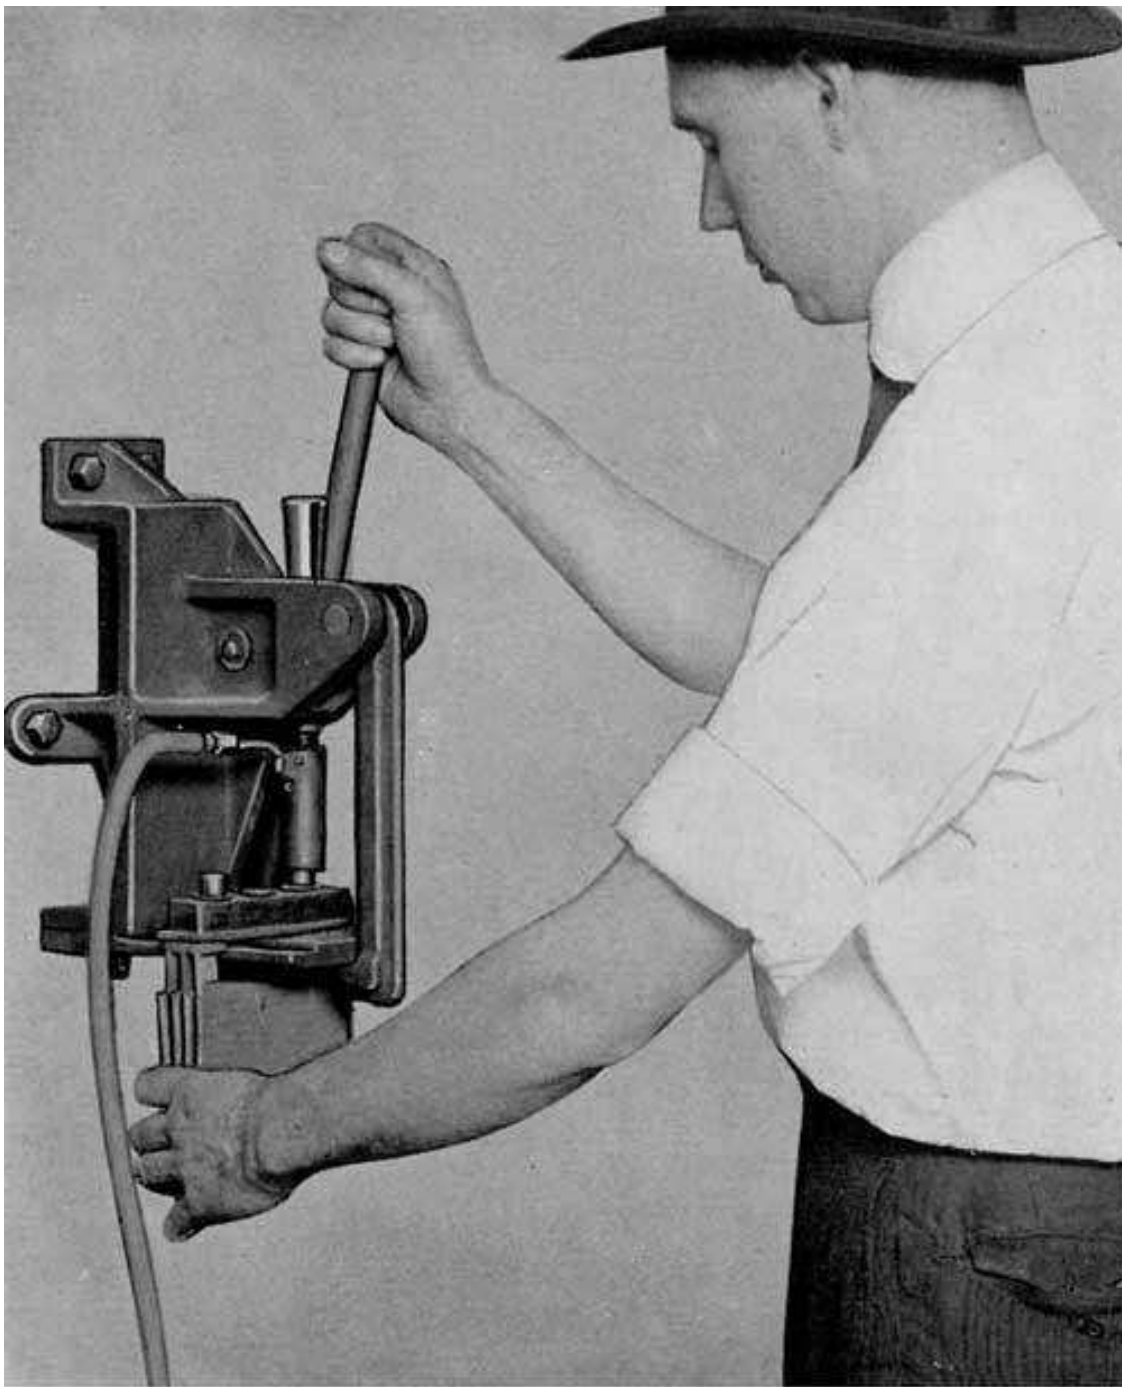

Fig. 253. Peening Prest-O-Lite Post
- (4) Slide the element over the Bed Plate directly under Peening Tool, with the bottom of the plate connectors resting on the Bed Plate. (See Fig. 253).
- (5) Pull down the Latch to hold the Bed Plate in alignment.
- (6) Center the post with Peening Tool. Then force the Peening Tool down slowly until it has covered about two-thirds of the distance to the cover. Pause in this operation to allow the metal of the post to become heated; then force tool the rest of the distance. Raise the Peening Tool slightly and force down again.
- (7) Release the Latch, withdraw and reverse the element, and repeat operations 4, 5 and 6 on the other post.
- (8) The assembled groups are now ready to receive separators.